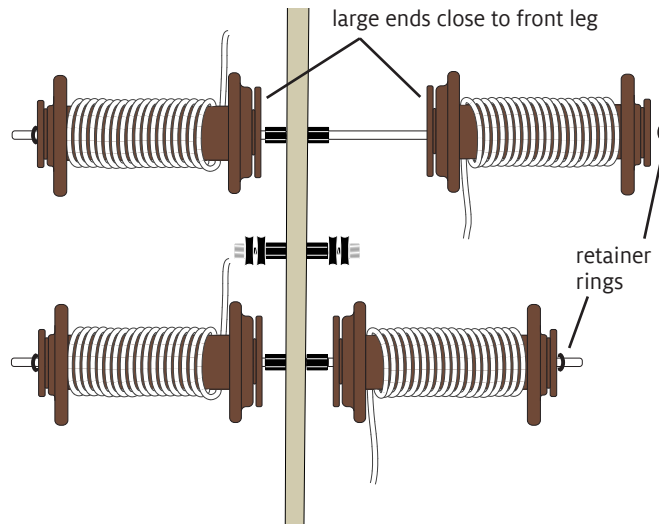

FIGURE 6: ADD BOBBINS
2. If you wish to tension the bobbins, add them to the bobbin rods with the larger ends close to the wheel's front leg (Figure 6). Place a tension O-ring around the large groove (closest to the front leg) and stretch the O-ring around the nearest tension pulley. Repeat for all the bobbins you wish to tension, as shown in Figure 7. There are two pulleys on each side of the kate so that you can tension both bobbins on each side. Secure each bobbin with a retainer ring.